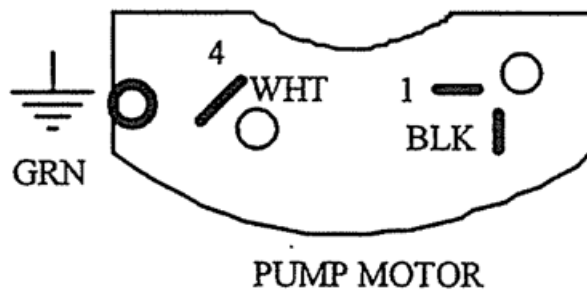

Figure 8
- 1.2 Measure the AC voltage between pins 1 and 4 (black and white wires) at the Pump (motor). *See Figure 8.* Is there 120 VAC?